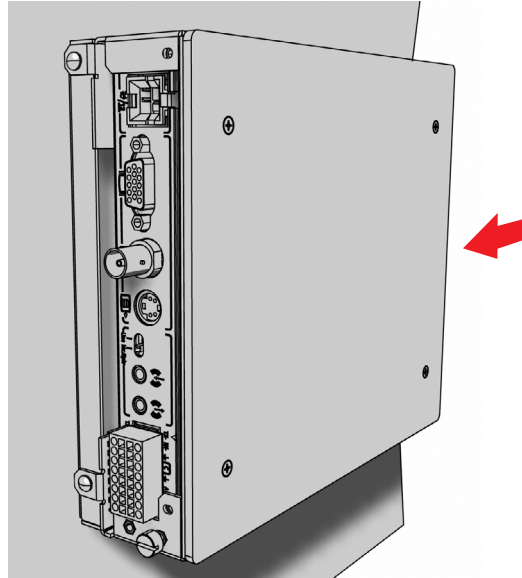

Figure 4. Module Installation
To insert a module, follow these steps and refer to Figure 4.
*The dimensions are based on the orientation of the wall mount as shown in Figure 4.